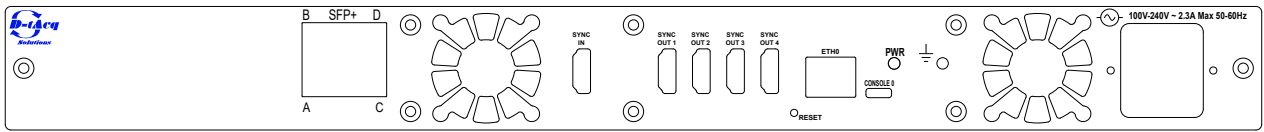

Figure 5: Rear Panel
**For protection from electrical shock, the power cord ground must not be defeated. If only a two-contact electrical outlet is available, connect the system's chassis ground stud (adjacent to the power supply see Figure 5 ) to a good earth ground.**